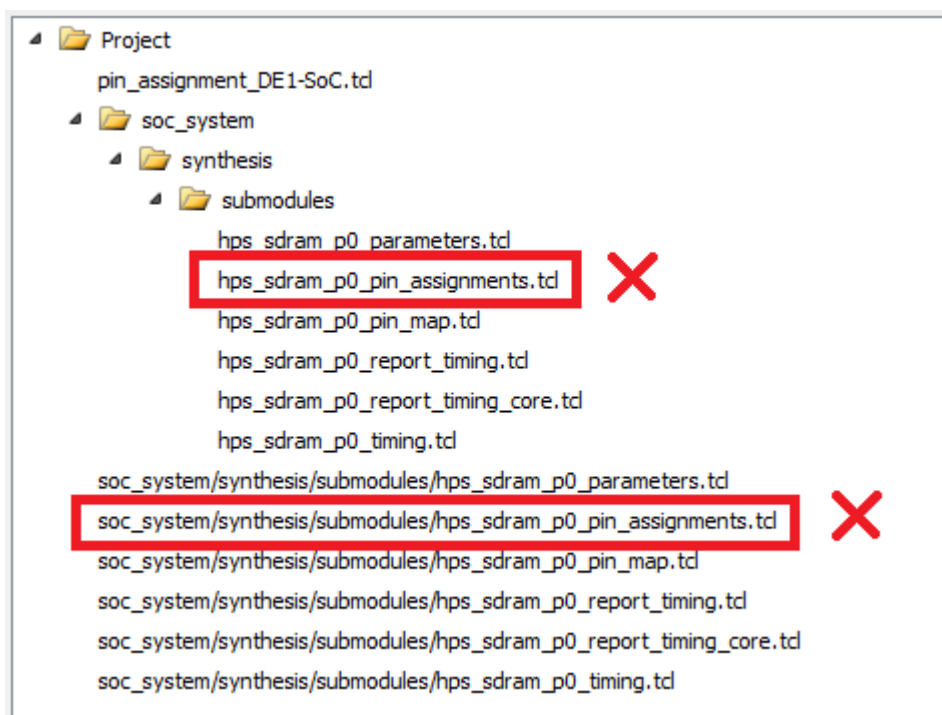
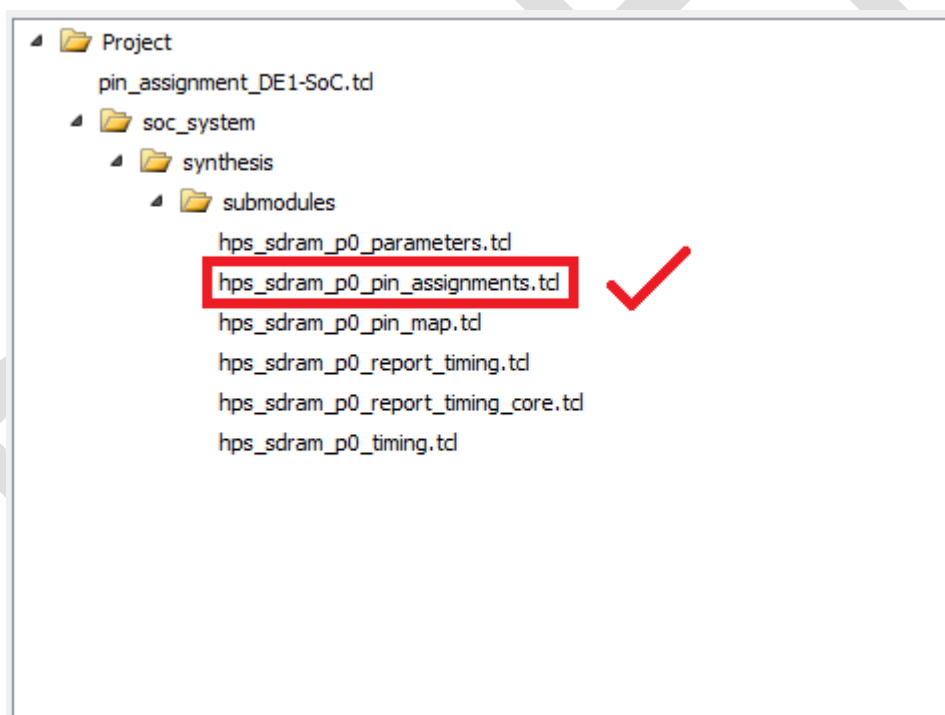

Figure 7-2. HPS DDR3 Pin Assignment TCL Script Selection Bug
Figure 7-3. Correct HPS DDR3 Pin Assignment TCL Script Selection
**IF AT THIS POINT YOU SEE THE SAME THING AS ON Figure 7-2 IN QUARTUS II, THEN CLOSE AND RELAUNCH QUARTUS II AGAIN. SOME VERSIONS OF QUARTUS II SUFFER FROM A BUG, WHERE THE PROGRAM DOESN'T CORRECTLY DETECT TCL FILES GENERATED BY QSYS. YOU SHOULD SEE THE SAME THING AS ON Figure 7-3.**